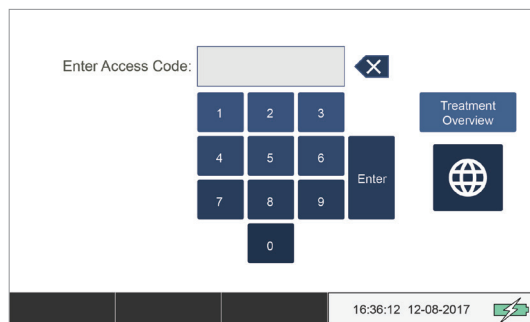

Figure 13 Enter Access Code Screen
5. After a successful Self Test, an audible sound will play from the Base Station and Handset. The *Enter Access Code* screen is shown on the Base Station (see Figure 13) and the Handset screen will be blank.